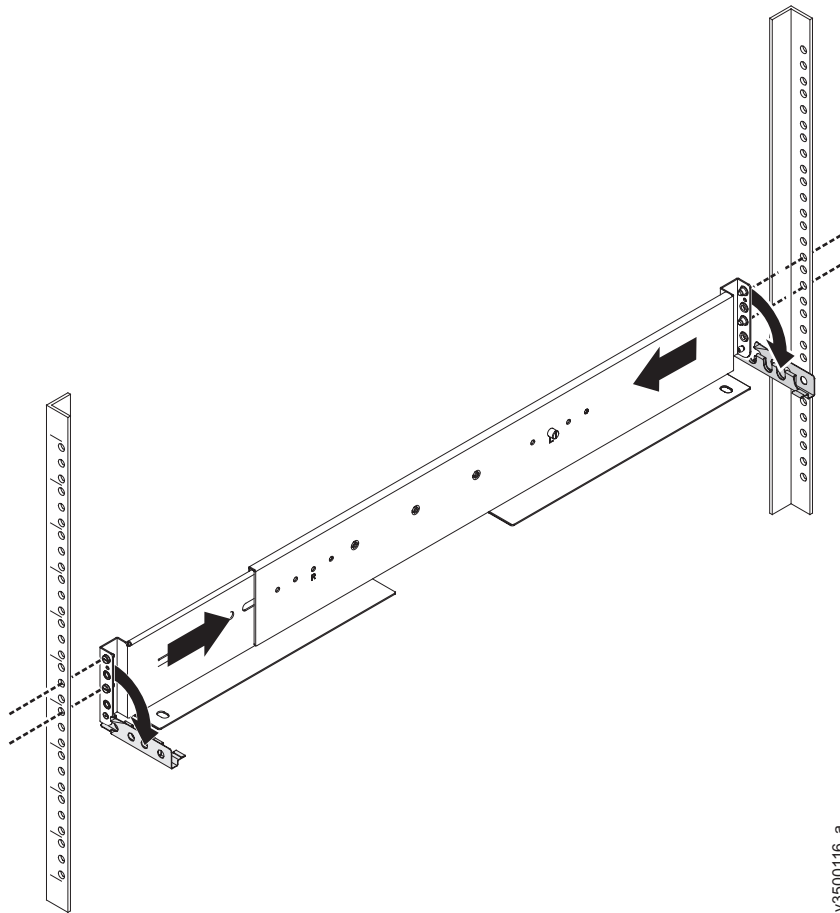

Figure 110. Compressing rail for removal from rack
11. Compress the rail against its spring to shorten it, then remove it from inside the rack (Figure 110 on page 362).